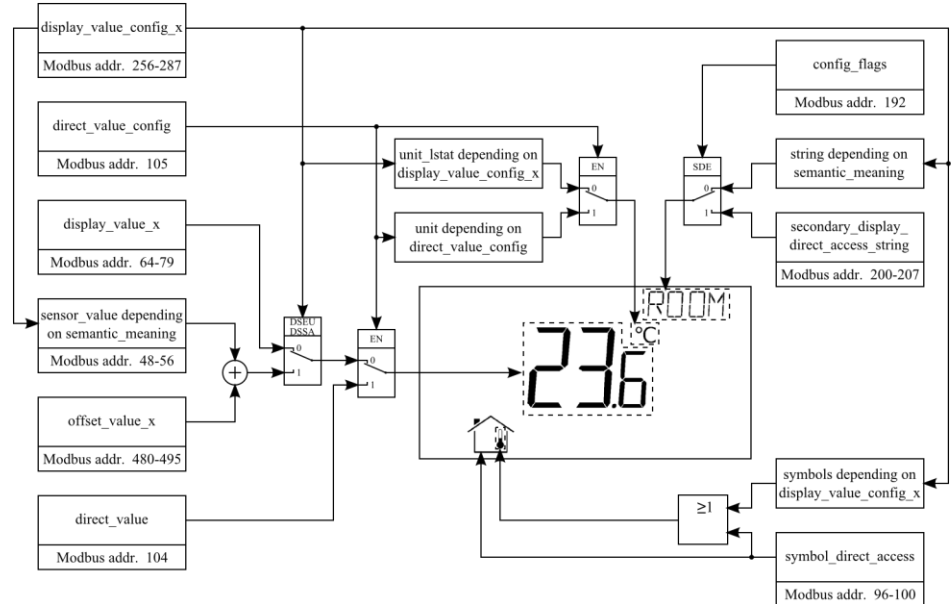

Figure 6: Modbus Register Usage for Value Display
The following Figure 6 shows, which Modbus registers have influence on a displayed value, unit, text on the secondary display or symbols. Depending on settings in configuration registers different combinations are possible to achieve the desired result.
<p>① A sensor value can be used as source for a display value. Therefore the DSSA or DSEU bit as well as the semantic meaning at the corresponding display value configuration at address 256 to 286 has to be set (see Table 28 on Page 39). If the DSSA or DSEU bit is set this specifies that a sensor value is used instead of a display value. The semantic meaning specifies which sensor value is used as source for displaying. For an overview on this topic please see Figure 6 on Page 21.</p> <p>① Sensor_value_0, sensor_value_1 and sensor_value_3 are 16 Bit signed values. All other sensor values are defined as 16 Bit unsigned since there are no negative values to expect. The values are scaled as described in Table 39 at Page 51.</p>
<p>① The DSSA or DSEU bit at the corresponding display value configuration at address 256 to 286 has to be cleared to display the content of a display value register (see Table 28 on Page 39). If the DSSA or DSEU bit is cleared this specifies that a display value is used instead of a sensor value. The semantic meaning specifies which text is displayed along with the specific display value. For an overview on this topic please see Figure 6 on Page 21.</p> <p>① All registers are 16 Bit signed values. Depending on the modbus_unit specified with the corresponding display value configuration register at address 256 to 287 (Table 28 at Page 39) the value needs to be scaled as described in Table 39 at Page 51 to achieve the desired result.</p>